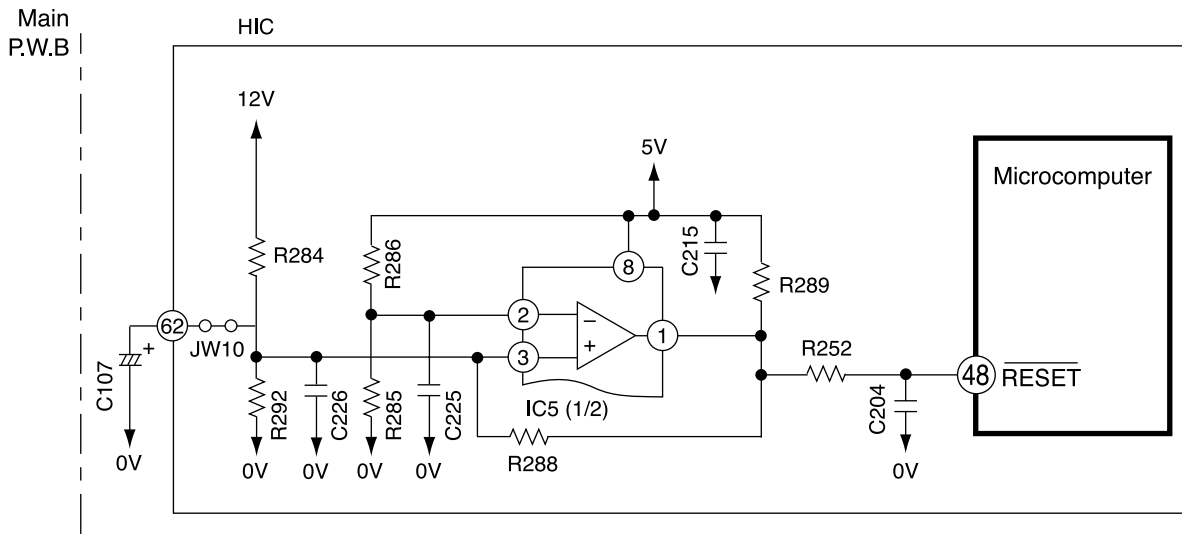
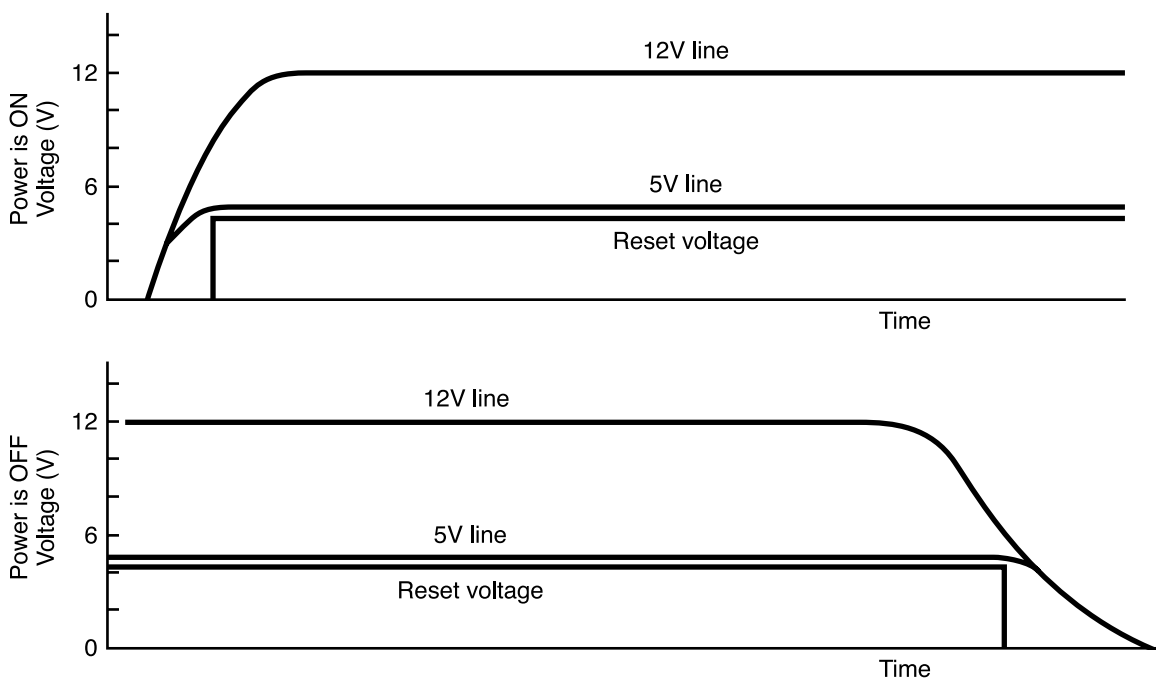

Fig. 10-1
Fig. 10-2
- Low voltage at pin ④8 resets the microcomputer, and HI activates the microcomputer.
- Fig. 10-1 shows the reset circuit and Fig. 10-2 shows waveform at each point when power is turned on and off.
- When power is turned on, 12V line and 5V line voltages rise and 12V line voltage reaches 10.9V and reset voltage input to pin ④8 of microcomputer is set to Hi.